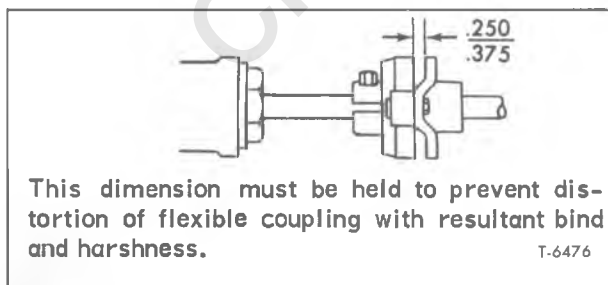

Figure 22—Rag-Type Flexible Coupling Adjustment (Conventional Cab)
4. Adjust lower flexible coupling (fig. 22) to maintain dimension of 0.250" to 0.375". While holding this dimension, torque U-clamp bolts to 15 to 20 foot-pounds.